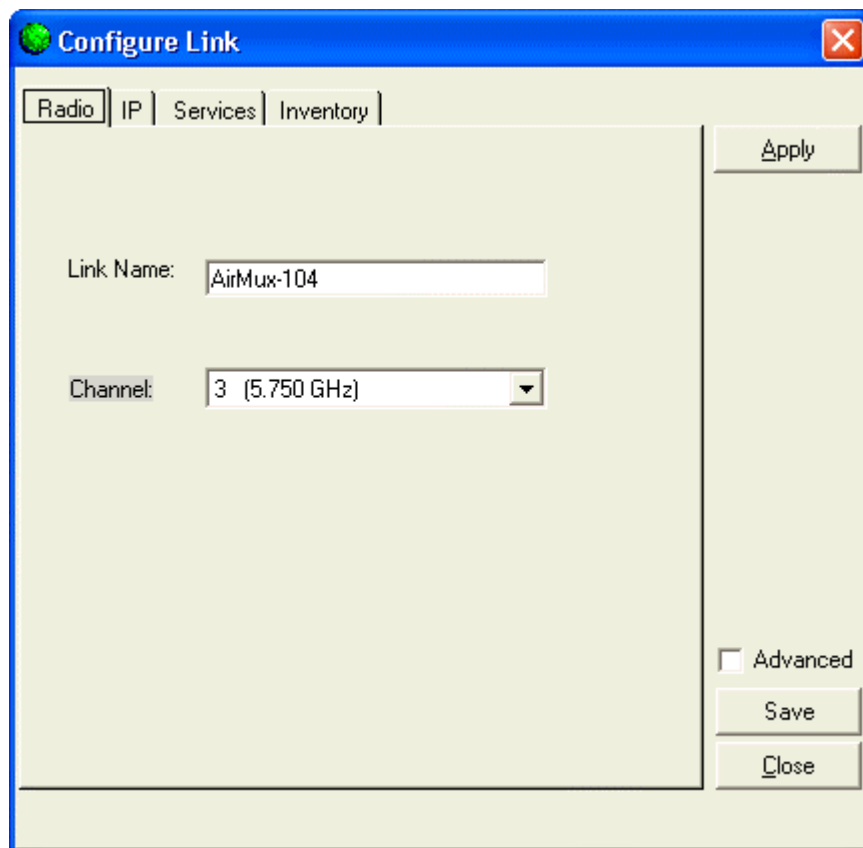

Figure 4-4. Configure Dialog Box
The Configure Link dialog box appears (see Figure 4-4).
1. In the Configure Link dialog box (see Figure 4-4), click **Save**.